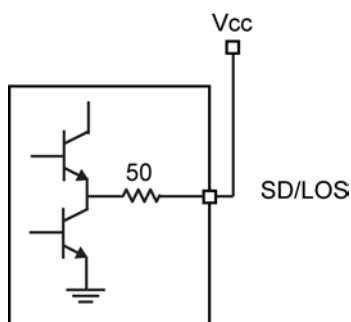

Figure 4. SD Output Structure
The SY88149HL generates a chatter-free Signal-Detect (SD) or LOS LVTTTL output, as shown in Figure 4. A highly sensitive signal detect circuit is used to determine that the input amplitude is too small to be considered a valid input. LOS asserts high if the input amplitude falls below the threshold set by LOS/SDLVL and de-asserts low otherwise. SD asserts high if the input amplitude rises above the threshold set by LOS/SDLVL and de-asserts low otherwise. LOS/SD can be fed back to the JAM input to maintain output stability under the absence of an invalid signal condition. Typically, a 3 dB hysteresis is provided to prevent chattering.